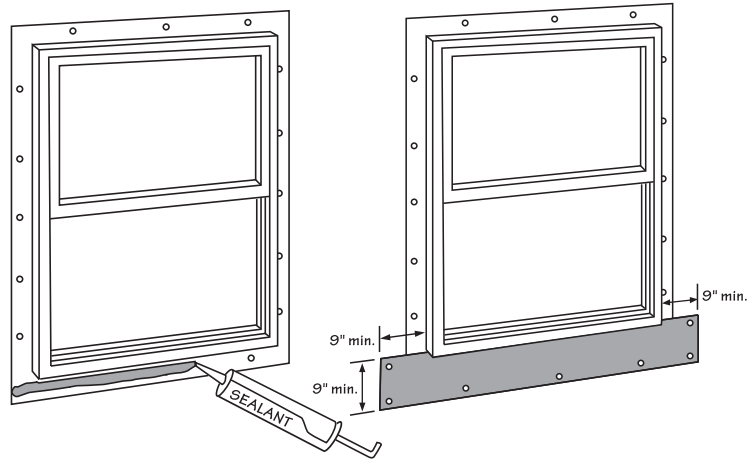

Figure 30.
- Apply a continuous bead of sealant to the nailing flange of the jambs in a manner that covers the nails and nail slots. Apply a minimum of 9" (229mm) wide horizontal sill flashing level with the bottom edge of the existing window by pressing the flashing into the sealant bead at its top edge. Cut the sill flashing long enough to extend a minimum of 9" (229mm) beyond each jamb. Fasten the sill flashing at the bottom and side edges (Fig. 30).